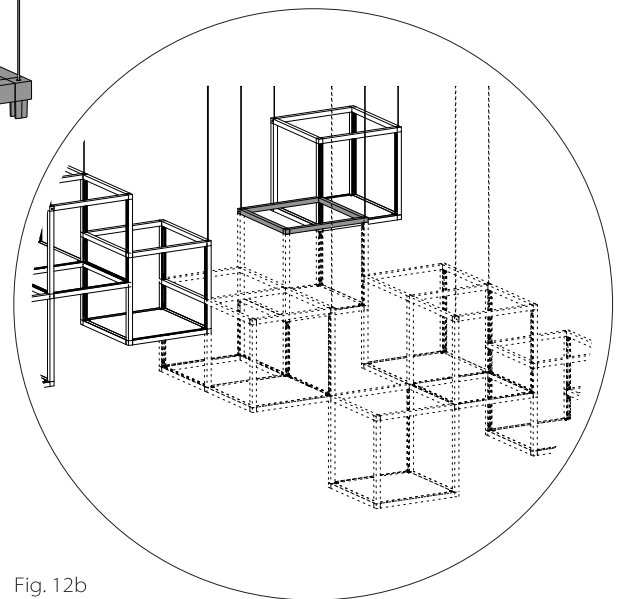

Fig. 12b
- 21d. Section as part of whole assembly shown in Fig. 12b.